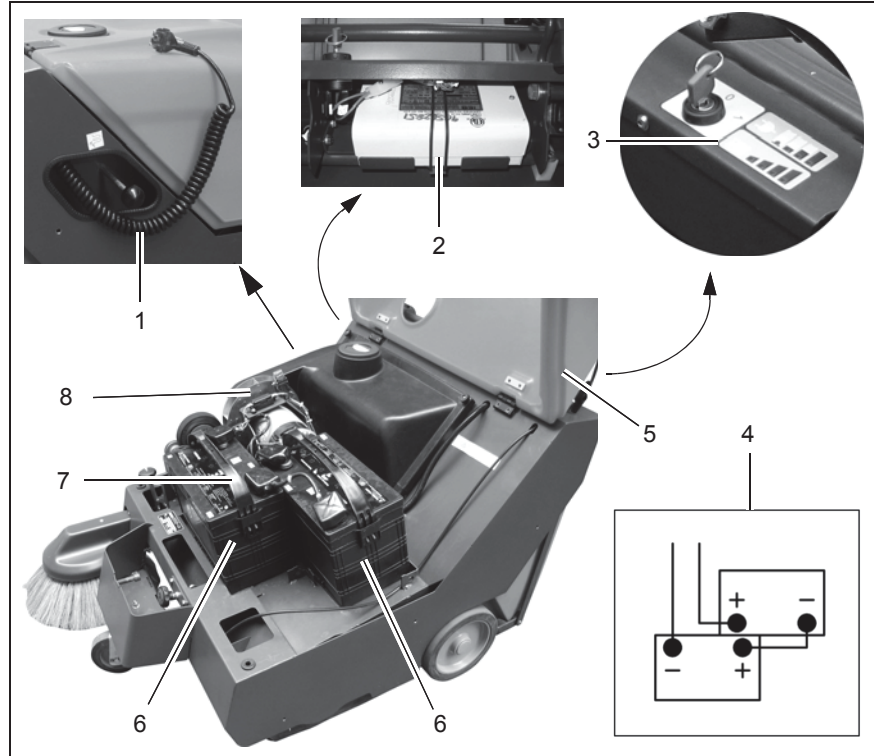

Fig. 15
During operation, the battery discharge indicator in the operating panel (Fig. 15/3) indicates the discharge status of the batteries, refer to paragraph 3.2.2, Section "Battery discharge status (Fig. 10/3)". The batteries must be charged immediately the red LED lights up. The batteries (Fig. 15/6) are recharged using the integrated on-board charger (Fig. 15/2):
2. Remove the charger cable (Fig. 15/1) from the recess on the right-hand side of the machine.
3. Plug the charger cable (Fig. 15/1) in a 230 V power outlet.
While the battery is charging, the charge control indicator lights up in the operating panel (Fig. 15/3), refer to paragraph 3.2.2, Section "Charge control indicator (Fig. 10/2)".
1. Unlock the hood (Fig. 15/5) using a square wrench and open the hood (Fig. 15/5).
2. Disconnect the negative cable from the batteries (Fig. 15/6).
3. Disconnect the positive cable from the batteries (Fig. 15/6).
4. Remove the connection cable from between the two batteries (Fig. 15/6).
6. Take hold of the batteries (Fig. 15/6) by their handles (Fig. 15/7) and lift them out.
2. Take hold of the batteries (Fig. 15/6) by their handles (Fig. 15/7) and install them at their prescribed positions in the machine, refer to Figure 15.
4. Connect the two batteries (Fig. 15/6) using the connection cable in accordance with the connection diagram (Fig. 15/4).
5. Connect the negative cable of the machine to the batteries (Fig. 15/6) installed in the machine.
6. Connect the positive cable of the machine to the batteries (Fig. 15/6) installed in the machine, refer to paragraph 2.1.4.
7. Close the hood (Fig. 15/5) so that it audibly locks.